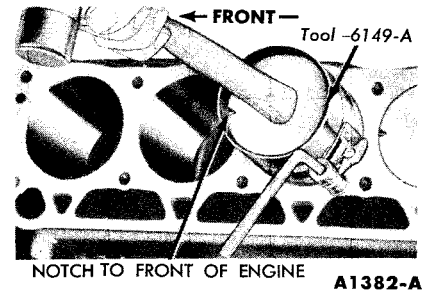

FIG. 58—Piston Installation
4. Make sure the ring gaps are properly spaced around the circumference of the piston. Install a piston ring compressor on the piston and push the piston in with a hammer handle until it is slightly below the top of the cylinder (Fig. 58). Be sure to guide the connecting rods to avoid damaging the crankshaft journals. **Install the piston with the notch in the piston head toward the front of the engine.**